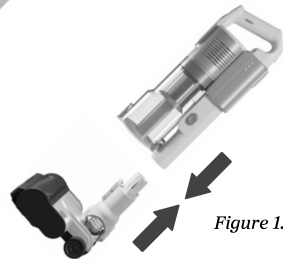

Figure 1.7
**Note:** You can also attach the vacuum body directly to the vacuum head. [Figure 1.7]